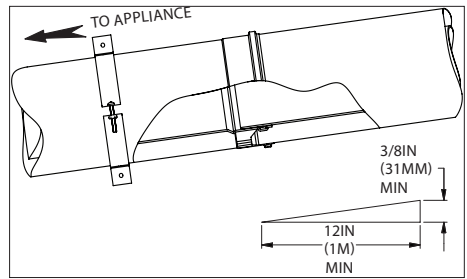

Figure 20
3. All vent pipes must have a minimum slope of at least 1.8° (3/8in rise per ft run, 31 mm rise per meter run) back to the appliance. Ensure there are no dips in the system where condensate can collect. **(Fig.20)**
4. The venting system shall be securely supported using suitable hangers. DuraVent hardware is recommended however field supplied support hardware, such as all-thread or plumbers tape, approved by the AHJ is acceptable. Hardware must be fixed to a rigid surface such as a wall, stud, or framing, and must not deform or damage the vent **(Fig. 20 and 21)**. Make sure the load of the vent system is not supported by the appliance.